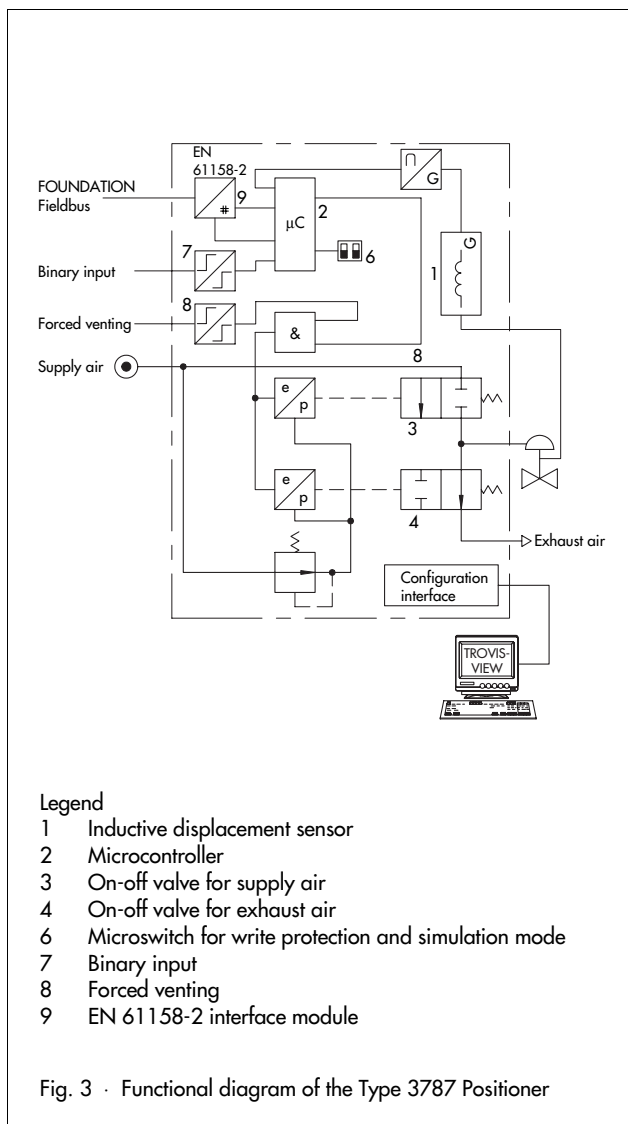

Fig. 3 · Functional diagram of the Type 3787 Positioner
- Forced fail-safe venting action · Upon absence of an external signal, the 2/2-way on-off valve (Fig. 3, item no. 4) causes the air to be vented. Consequently, the control valve is forced to move to fail-safe position.